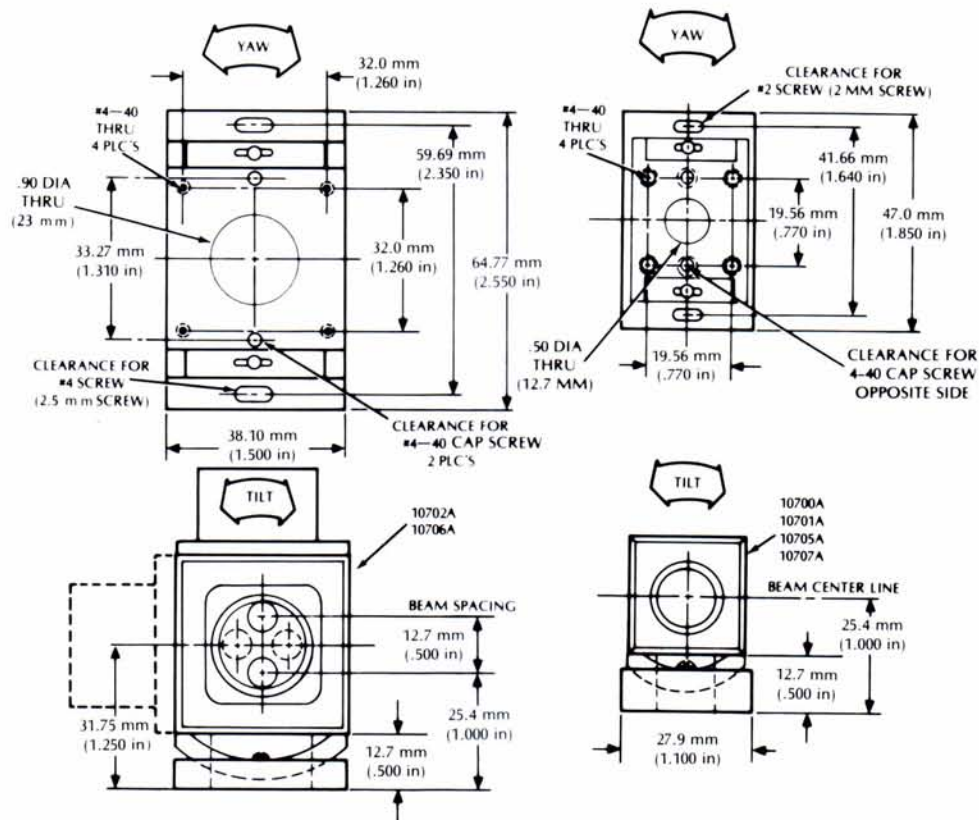

Figure 2-24. 10710A and 10711A Adjustable Mounts Specifications
- g. 10710A and 10711A Adjustable Mounts Specifications, see *Figure 2-24*.